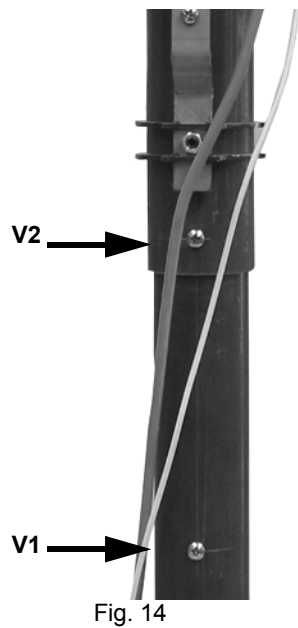

Fig. 14
- 1 Remove the screws **V1** and **V2** as shown in Fig. 14.